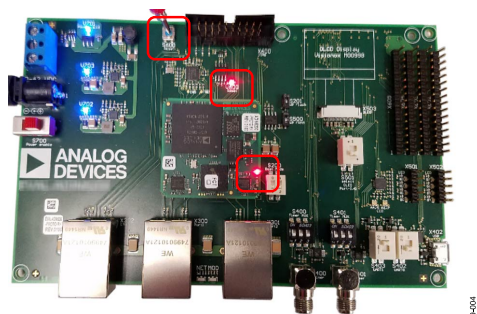

Figure 4. Reset Switch Location and Reset LEDs
3. If it is necessary to reset the evaluation board, press the **Reset** switch, which illuminates two red LEDs, as shown in Figure 4.